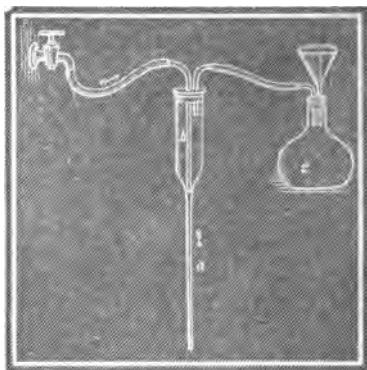

Fig. 51.
In most schools this should be a volunteer class and the work extra, put in after school hours or on Saturdays. Be sure you want to do the work before you undertake it. Don't talk to others while at work, except in rare instances so far as quietly to obtain information. Don't "fool" in the laboratory and report those who insist upon doing it, that they may be promptly removed from the class. Have no false honor about this, for the nonsense of one may vitiate all *accurate* work for a class.—Reserve a portion of the original solution to begin upon again in case of accident, also for special tests.—Common drinking water, boiled, cooled, and filtered, usually answers for all work with the first two Groups; but distilled water must be used for the other Groups, and is better for all reagents.—Precipitate *thoroughly* each Group, but on the other hand avoid much *excess* of the precipitating reagent.—Evaporate filtrates if they become too dilute. A coal-oil stove makes a cheap source of heat for evaporation.—Avoid breathing, to any great extent, fumes of hot HCl , H_4NHO , HNO_3 , aqua regia, etc. Hold dishes at arms' length while pouring such liquids. Under a gas chimney with flame at base to increase draft, is the proper place to generate noxious fumes; but such work may be easily done upon a shelf by open window with slight outward draft.—Make $(\text{H}_4\text{N})_2\text{S}$ by passing H_2S into dilute H_4NHO (10%) till saturated and then add equal volume of H_4NHO . Digest this with a little S and filter to make $(\text{H}_4\text{N})_2\text{S}_2$ (*yellow*), or expose $(\text{H}_4\text{N})_2\text{S}$ to air for sufficient time.—A convenient H_2S generator is shown in FRONTISPIECE (2). The middle bulb contains Fe S. A test-tube with small hole in bottom (containing a little broken glass upon which is Fe S), lowered into wide-mouthed bottle of dilute H_2SO_4 and test-tube closed by perforated rubber stopple through which is glass tube connected with rubber tube held by spring, Fig. 46, makes a cheap H_2S apparatus.—Fig. 50 shows a convenient reagent bottle with pipetted stopple. Take test-tube to bottle to add reagent, not bottle to test-tube, and be careful not to stir up any sediment which may have fallen in case drinking water has been used.—Fig. 51 represents a system of *rapid filtration*. The stream of water must be regulated. The longer the tube *a*, the more rapid the filtering. Chamber *b* must be air-tight at top. Pt (foil) funnel-shaped tip must support filter paper at bottom, and the wet edges of filter paper must be pressed firmly against upper part of funnel. A partial vacuum is formed in chamber *b* and flask *c*.—For color of precipitates, additional tests, etc., see EXP. 97 and INDEX, also have a work on *Qualitative Analysis* upon the desk for reference.